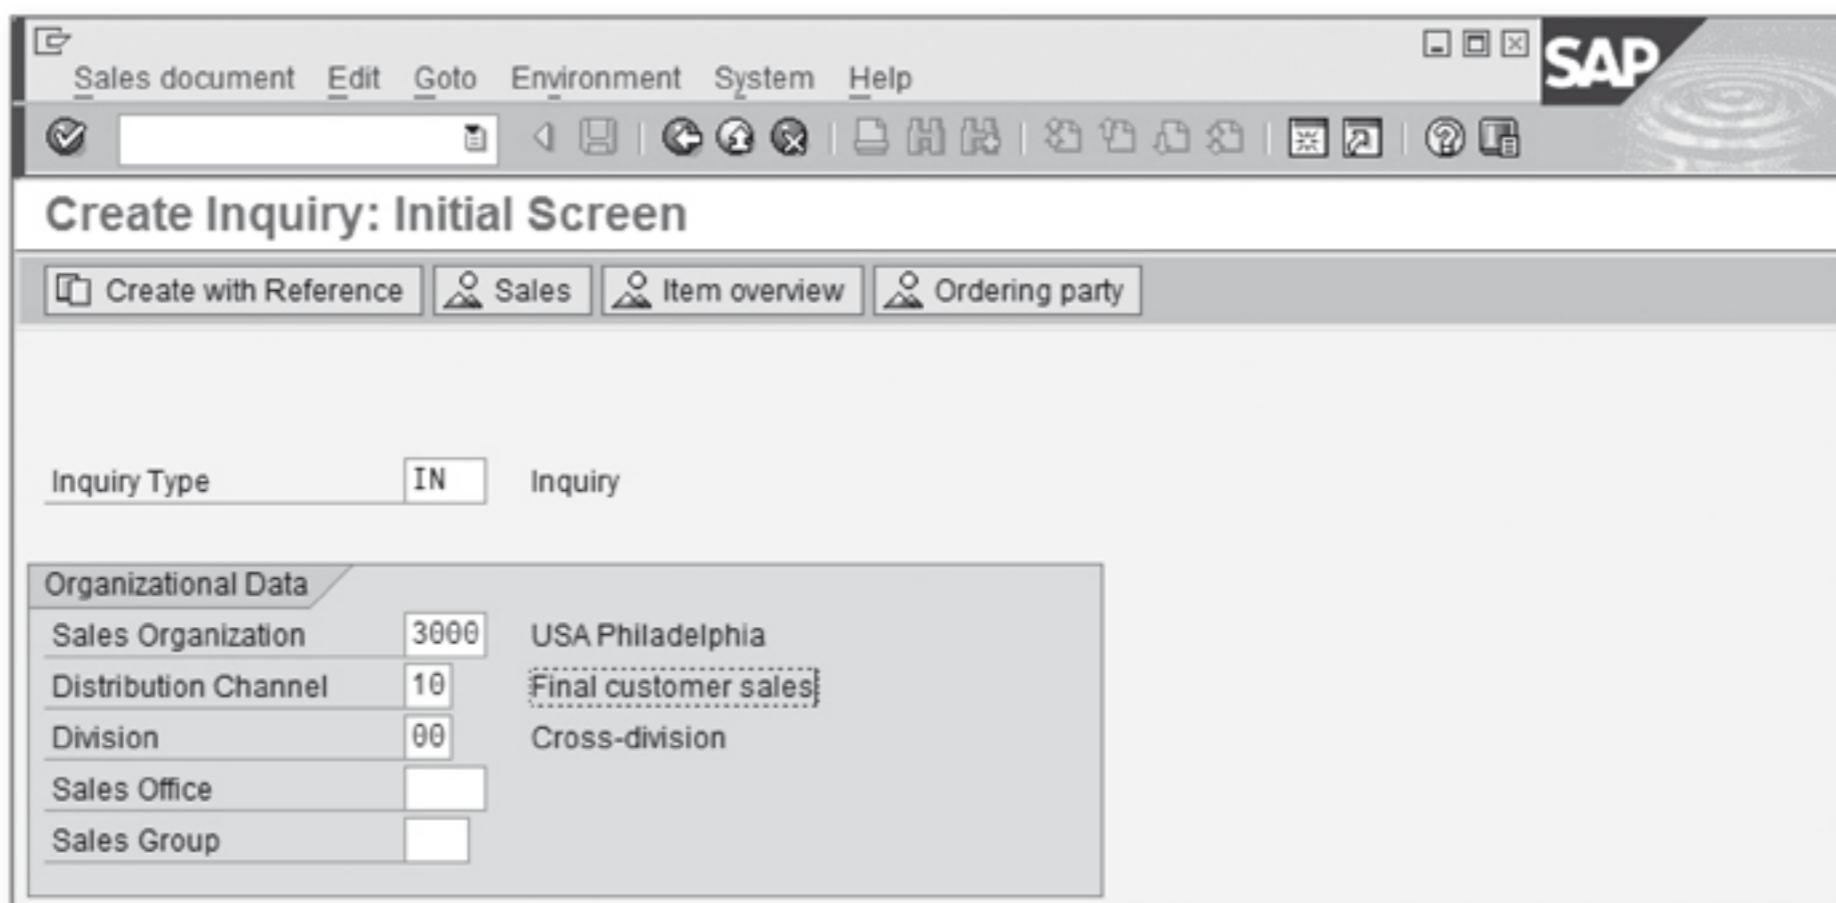

Figure 3.4 Create Inquiry – Initial Screen
1. On the Create Inquiry: Initial Screen, enter the Inquiry Type and necessary Organizational Data, and then press **Enter** (see Figure 3.4).